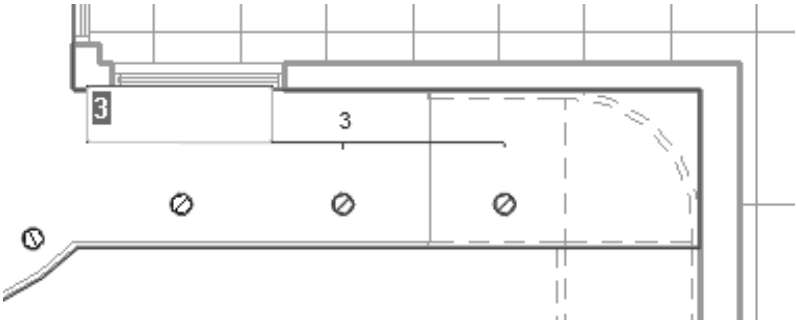

Figure 2–54
6. If the **Group and Associate** option is selected, you are prompted again for the number of items, as shown in Figure 2–54. Type a new number or click on the screen to finish the command.